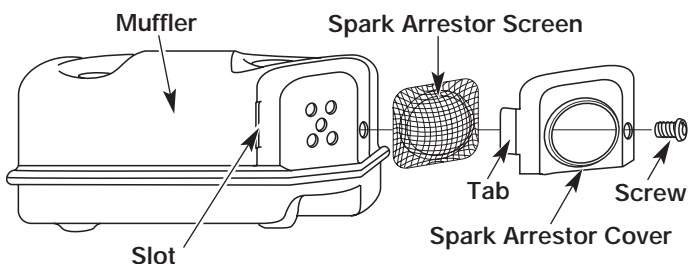

Fig. 69
2. With a flat blade screwdriver or Torx T-20 bit, remove the screw attaching the spark arrestor cover to the muffler (Fig. 69).